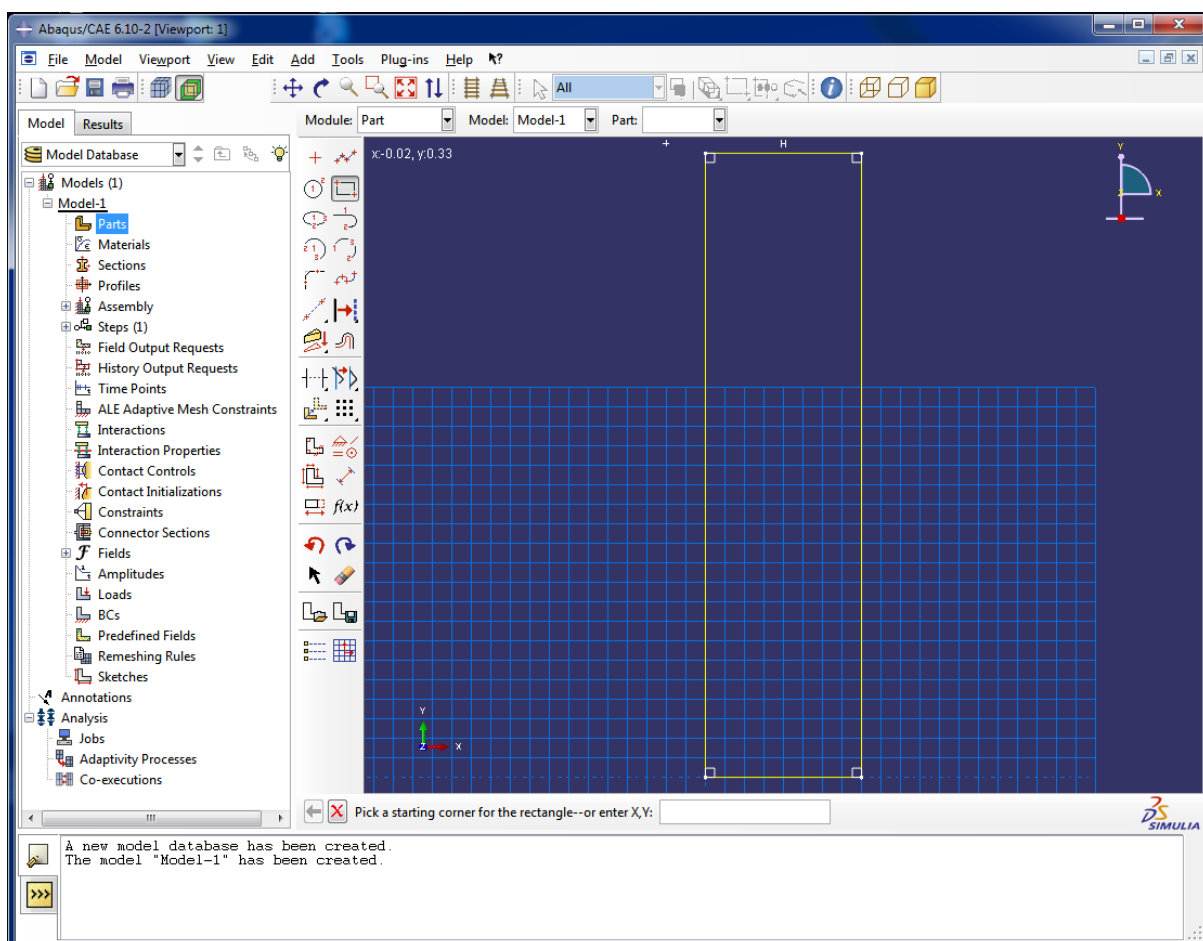

Figure 2 Sketch of the rectangular cross section of the solid profile.
- a. Create a rectangle using the **Create Lines: Rectangle** tool. The rectangle should have the dimensions 0.08 x 0.32 as shown in Figure 2. This can be achieved by typing 0,0 as the starting point and 0.08,0.32 as the end point in the input box below the window.